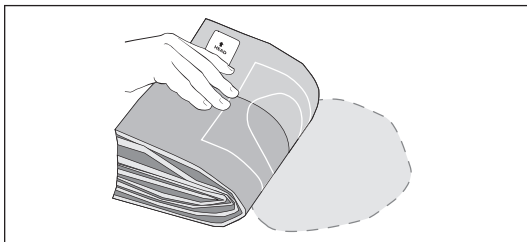

Figure 10
- Position fenestration over intended insertion site (refer to Figure 10).